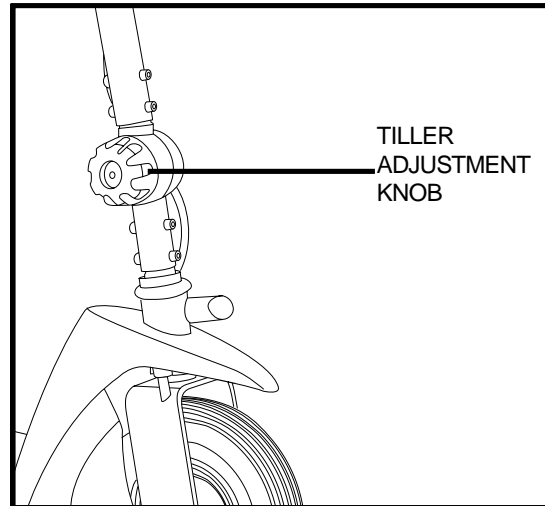

Figure 16. Tiller Adjustment
1. Turn the tiller adjustment knob counterclockwise to loosen the tiller. See figure 16.